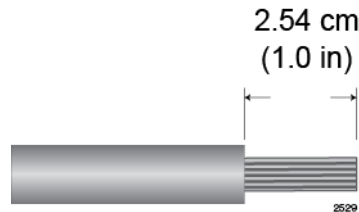

Figure 121. Stripping the solid or Stranded Grounding Wire
1. Prepare an adequate length of solid or stranded 10 AWG grounding wire by stripping it as shown in Figure 121.